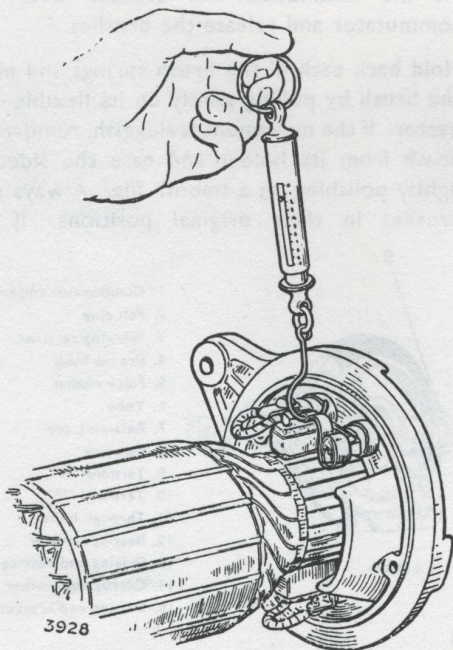

Fig. 5. Testing brush spring tension
4. Test the brush spring tension using a spring scale (See Fig. 5). The tension of the spring when new is 15/25 oz. (.42/.71 kgs.) when exerted on a new brush. Fit new springs if the tension is low.